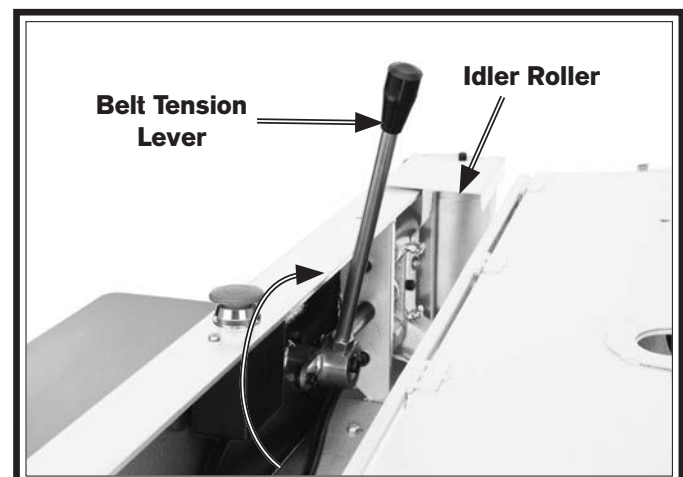

Figure 19. Belt tension lever in un-tensioned position.
3. Move belt tension lever up and toward the idler roller (see **Figure 19**).